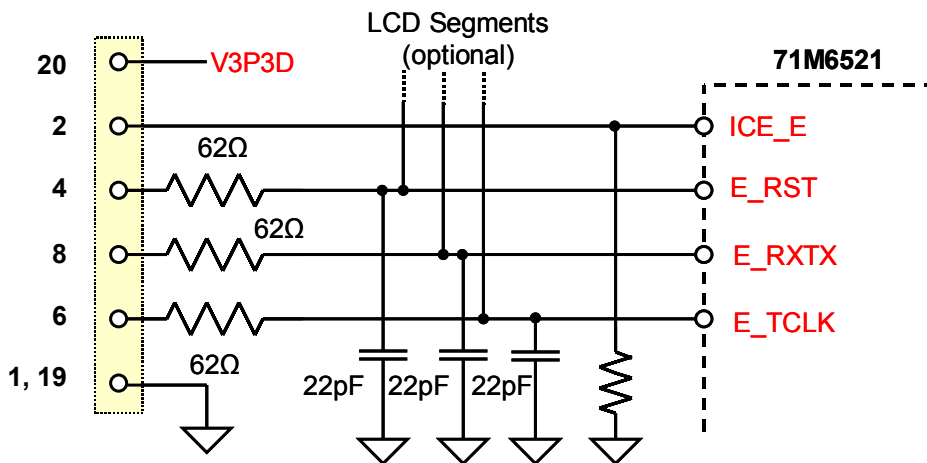

Figure 3: ICE Interface for the 652X
To recover a part from situations where the *SECURE* bit and/or *ECK_DIS* bit are set early in the code execution, a reset of the part is necessary. This is easy to achieve for demo or prototyping boards that have a dedicated reset button. Usually, the ADM51 emulator is fast enough to take control of the E_RST pin and can halt the MPU right after reset or power-up. The TFP-1 is not as fast as the ADM51 emulator and may not be sufficient to recover the part. Again, the newer TFP-2 programmer will be fast enough and will also provide an output that can control the ICE_E pin of the 652X chips, when this pin is brought out to the emulator connector (see Figure 3).
- 3) **To enable operation with the TFP-2, the ICE_E signal should be brought out to pin 2 of the programming connector, as shown in Figure 3.**
- 4) **The ICE_E signal should not be tied directly to GND but pulled down by a 1kΩ resistor, as shown in Figure 3, in order to enable the TFP-2 to pull it up.**